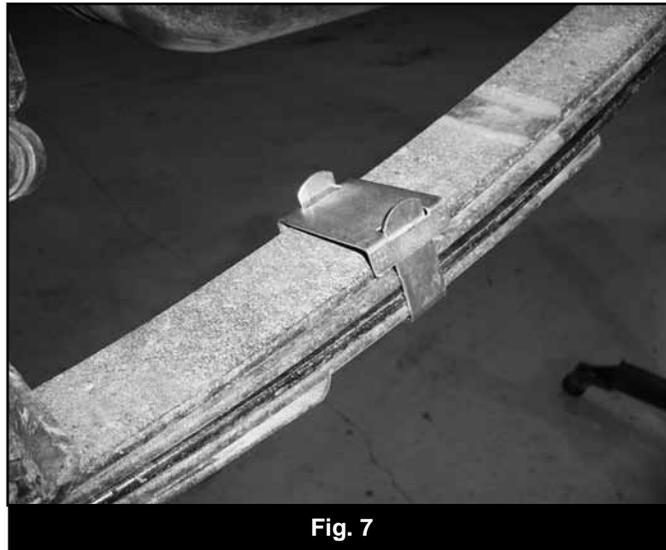

Fig. 7
44. Remove the C-clamps from the leaf pack and ensure the individual leaves are all inline with each other. Install the provided bend-over style clamps on the leaf pack (Fig 7). Install one clamp on each side of the center pin about 12" from the center pin. Bend the ends of the clamps over to secure them to the spring.